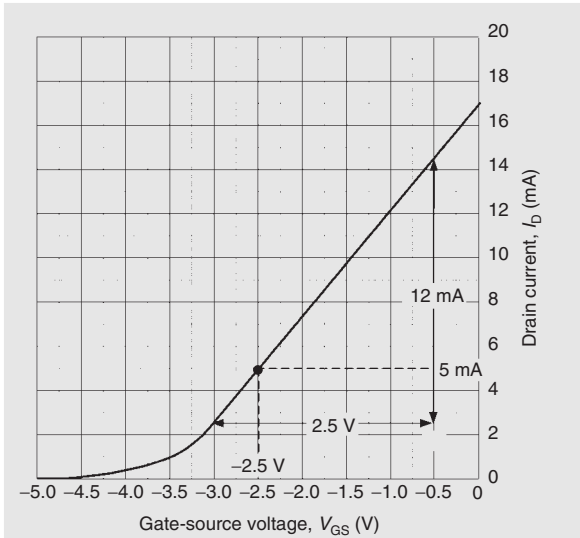

Figure 12.20
Problem 8. Figure 12.20 shows the mutual characteristic for a junction gate field effect transistor. When the gate-source voltage is -2.5 V, determine (a) the value of drain current, (b) the dynamic value of forward transconductance.
- (a) From Fig. 12.20, when $V_{GS} = -2.5$ V, the **drain current, $I_D = 5$ mA**
- (b) From Fig. 12.20